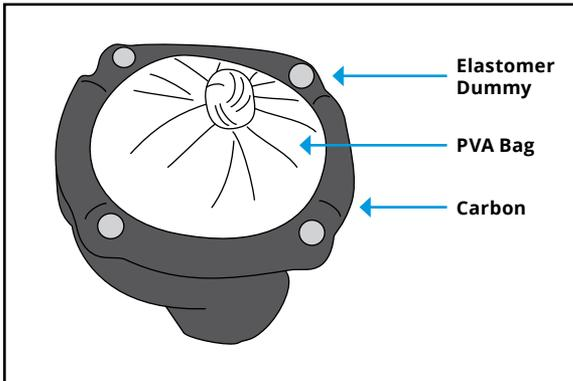

Figure 4
7. Reflect the carbon sleeve over the socket attachment ring, allowing elastomer dummies to protrude through the carbon sleeve at the distal end, and secure the sleeve at the proximal edge (see Figure 4).